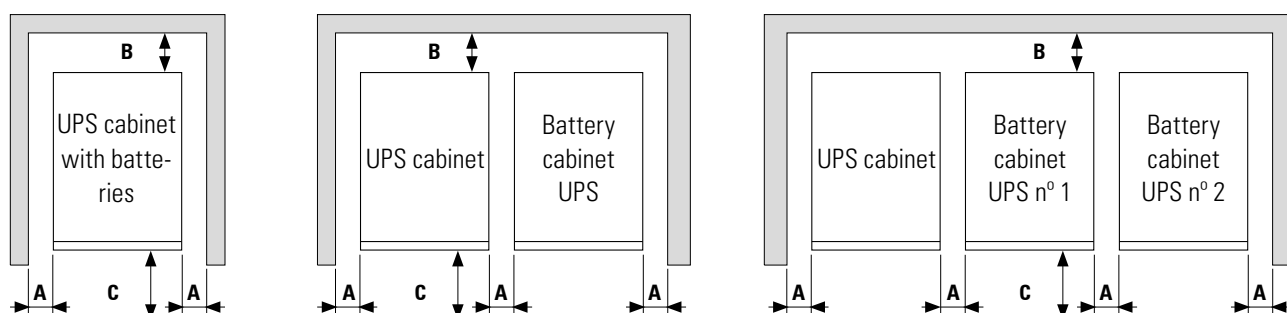

Fig. 36. Minimum peripheral dimensions for ventilating the UPS.
- By way of example, Fig. 36 shows configurations composed of a single UPS cabinet: a UPS with batteries inside, a UPS with an external battery cabinet and a UPS with extended autonomy with two external battery cabinets.